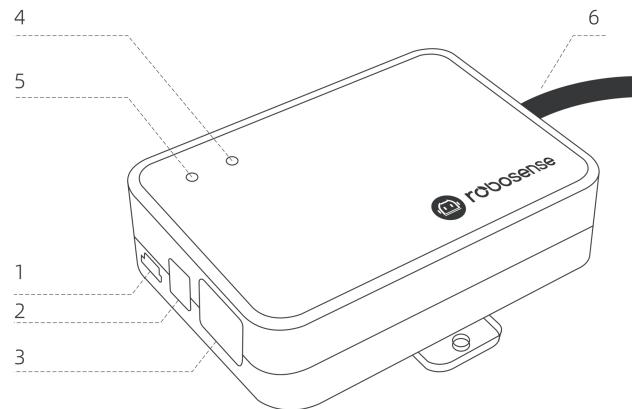

Figure 9 Interface Box Schematic
The Helios 16 accessory interface box is equipped with status indicator lights and various interfaces, as shown in Figure 9 . It can be connected to power input, RJ45 Ethernet port, and GPS input cable (the cable length for the aviation plug version of the interface box is 3 meters; for other cable length requirements, please contact Robosense).
- After powering on, under normal working conditions, the red and green power indicator lights on the LiDAR's Interface Box will be constantly on. The positions of the indicator lights are shown in Figure 9 .